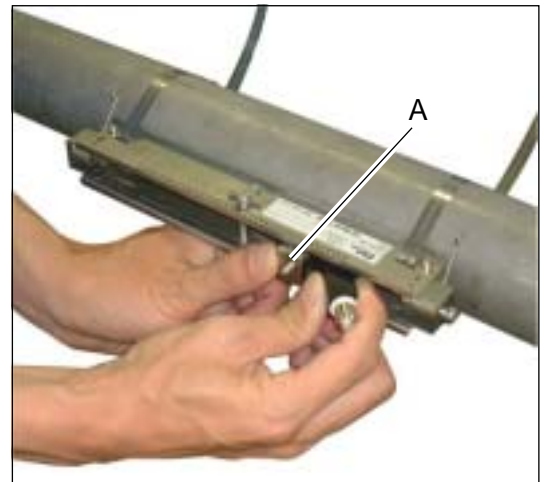

Fig. 3-14
- (3) Then insert the sensor unit into the frame, align the slit provided on the pressing fixture of the sensor unit with graduations located on the frame top surface (see Fig. 3-14), and press the sensor unit until the fixture claws are engaged with the frame side square holes. Mount both sensor units so as to be roughly symmetrical with respect to the frame (see Fig. 3-15).